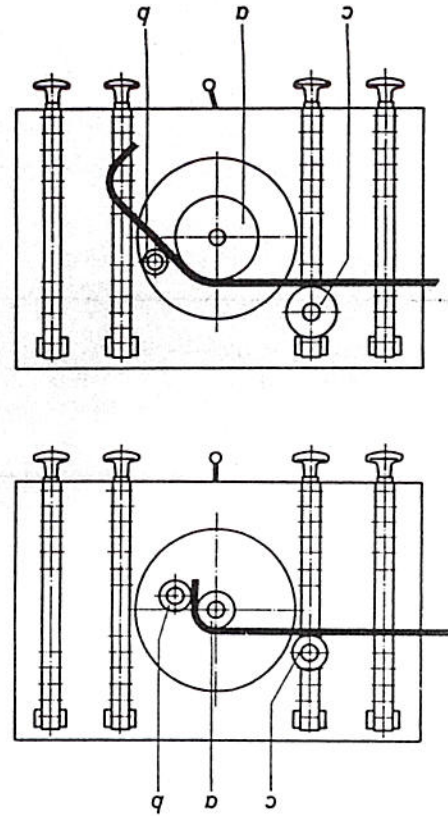

Fig. 10: Bending a full length bar
- Fig. 10 Assembly Drawing: Bending Tools - Optional Equipment